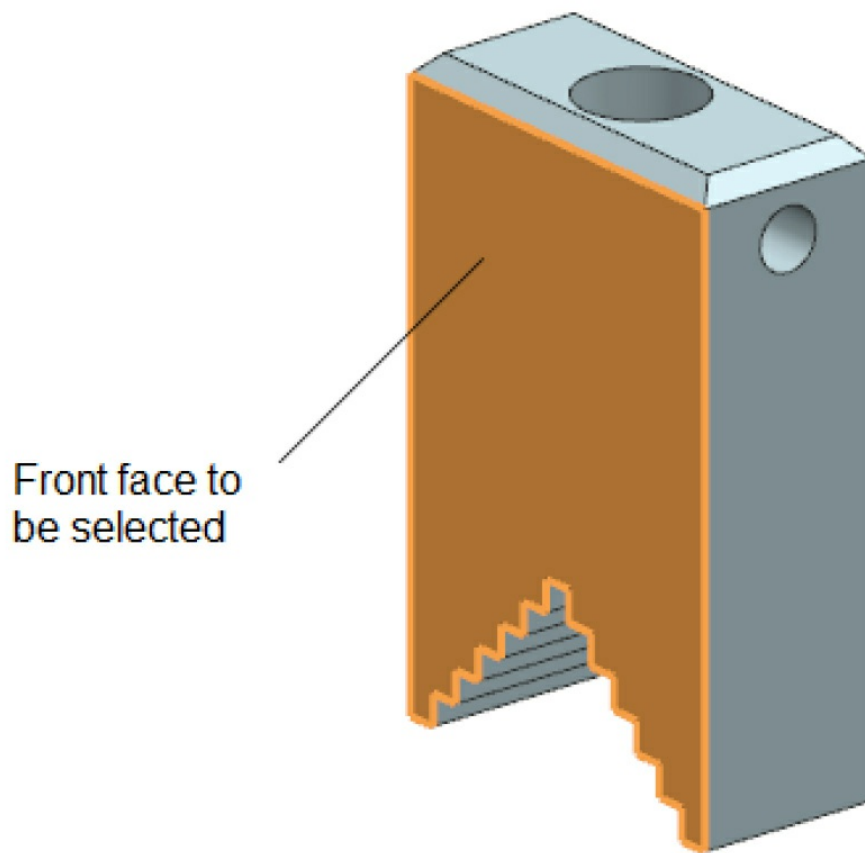

Figure 8-62 *Front face of the Movable Jaw to be selected*
9. Select the front face of the Movable Jaw as the first object, refer to Figure 8-62. Next, select the XC-YC plane of the Screw as the second object to apply the **Parallel** constraint.